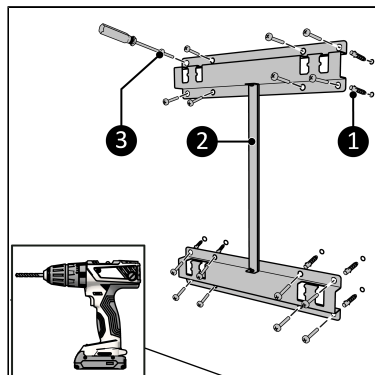

Figure 34.
3. Place wall plugs (Figure 34, pos 1).
4. Screw and tighten the wall bracket (Figure 34, pos. 2) to the wall with eight large screws using a Phillips screwdriver (Figure 34, pos. 3).